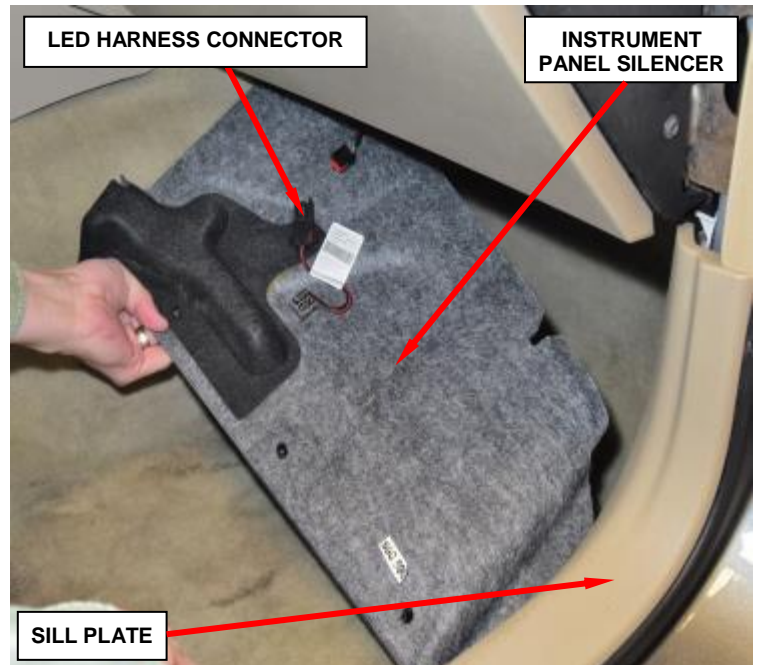

Figure 29 – Instrument Panel Silencer
- b. Remove the right side sill plate (Figure 29).
- c. Remove the three pushpins that secure the instrument panel silencer to the instrument panel (Figure 29).
- d. Disconnect the harness connector(s) and remove the right side instrument panel silencer (Figure 29).